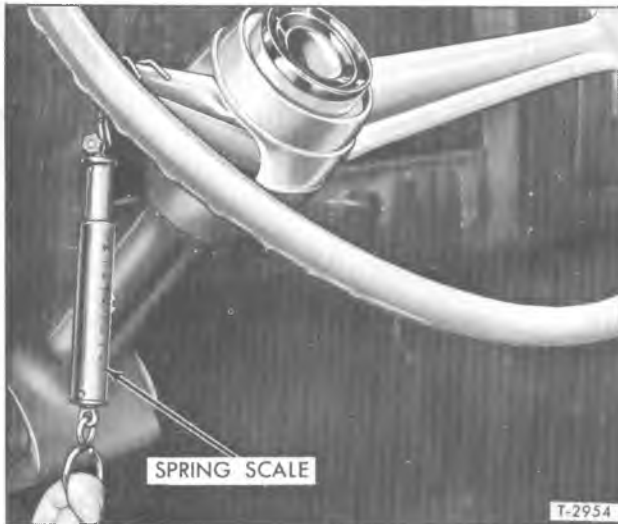

Figure 5—Checking Steering Wheel Rim Pull
4. Attach spring scale (J-544-01) at rim of wheel as shown in figure 5. Pull on scale in a line at right angle to wheel spoke and measure the amount of pull required to keep the wheel moving. If worm bearings are properly adjusted, reading on spring scale should be between 1½ and 2 pounds.